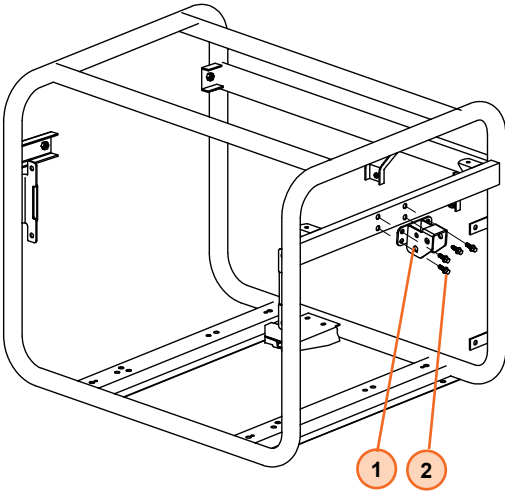

Figure 3
Step 1. Installing the handle bracket (see Figure 3):
1. Mount the handle bracket ① to the generator frame by lining up the holes in the bracket with the pre-drilled holes in the frame. Secure with hex bolts ② in 4 places.